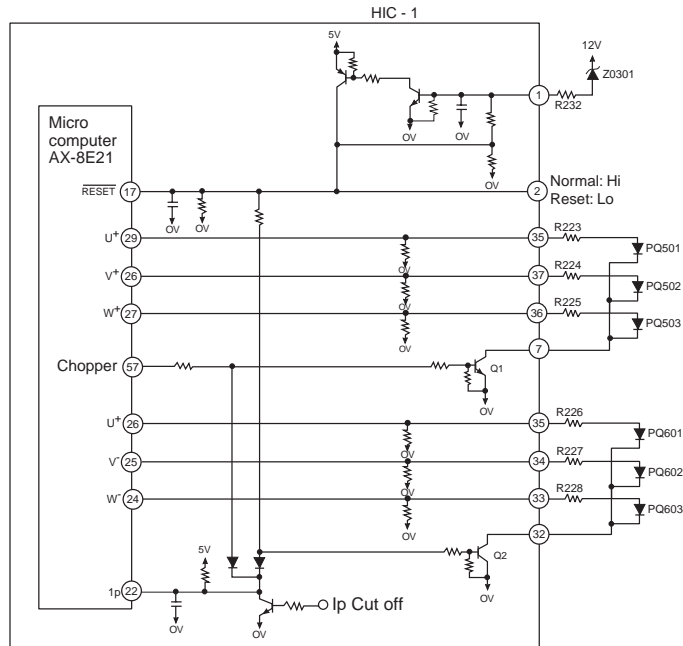

Fig. 9-1 Trip Signal Synthesis Circuit
- Fig. 9-1 shows the trip signal synthesis circuit.